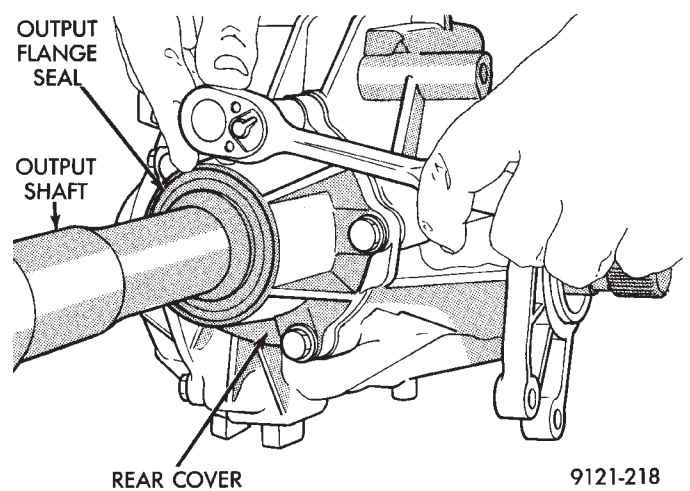

Fig. 5 Rear Cover Bolts
- (1) Raise vehicle on hoist.
- (2) Remove propeller shaft.
- (3) Remove rear cover retaining bolts (Fig. 5).